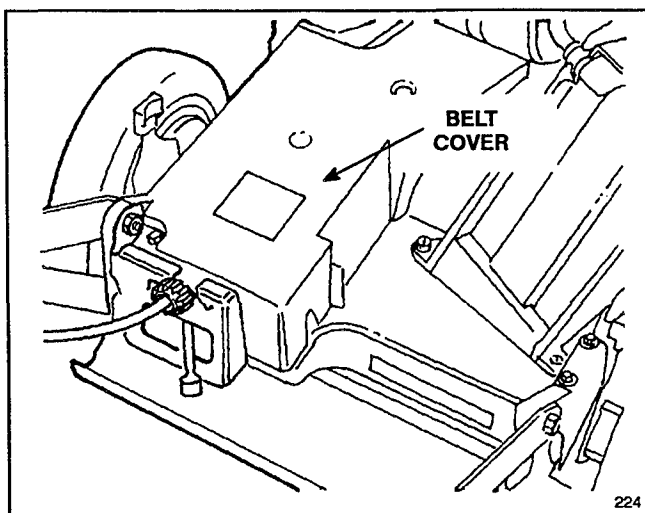

Figure 32
6. Remove bolts securing belt cover (Fig. 32) to mower housing. Lift off cover and brush out all debris from belt area. Reinstall belt cover.